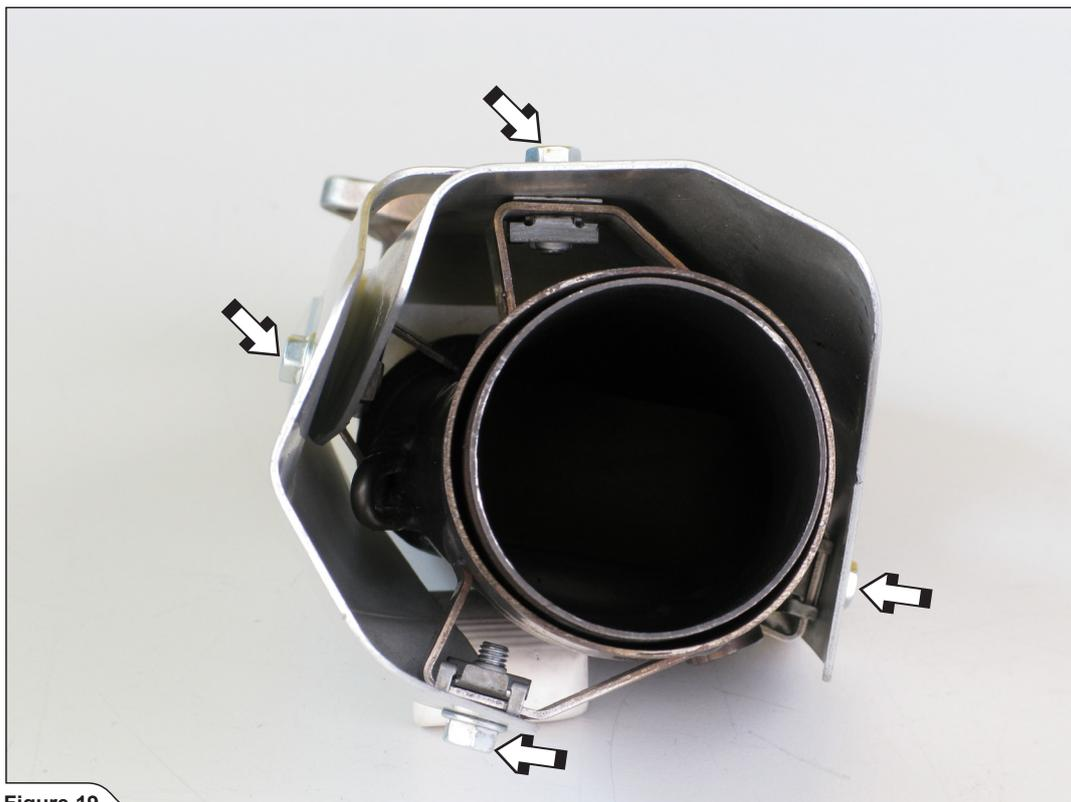

Figure 19
16. Unscrew the heat shields and remove the press-on nuts from front header (Figure 19).